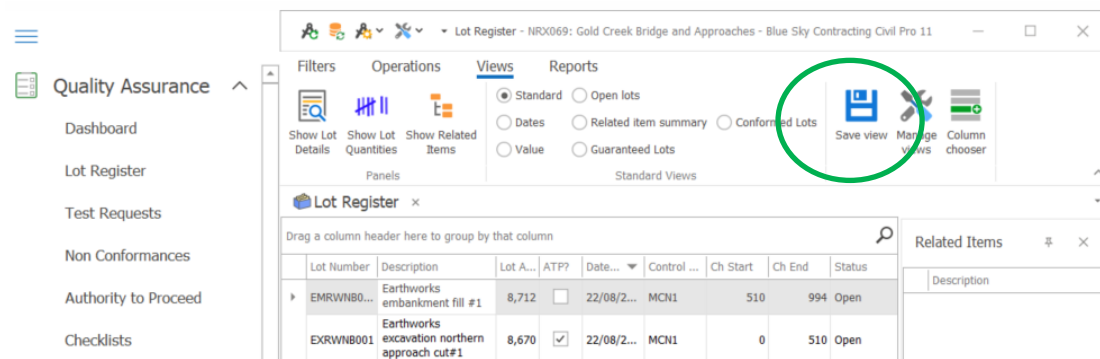

Figure 120 Save View option in ribbon menu
- 5.18.1 3. To save the current layout select *Save View* from the ribbon menu at the top right of the screen as indicated in Figure 120.